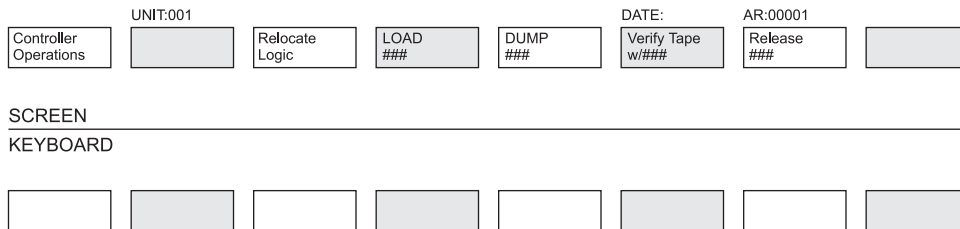

Figure 3-4
- Then press the <Controller Operations> software label key. See Figure 3-4.